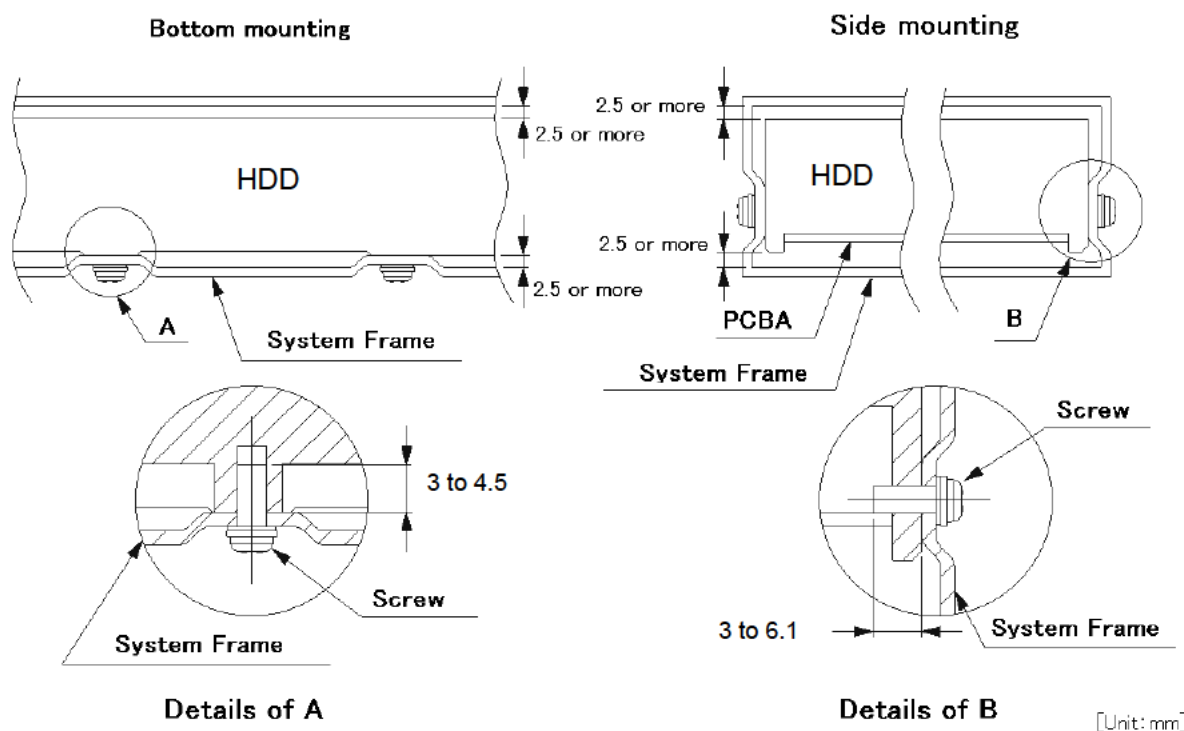

Figure 3.3 Mounting frame structure example
- a) The frame shall not touch the PCBA of the HDDs. For example as shown in Figure 3.3, mount the HDDs with a gap of 2.5 mm or more from the frame.
- b) As shown in Figure 3.3, the inward projection of the screw from the HDD frame wall at the corner must be 3 to 4.5mm on the bottom mounting, 3 to 6.1mm on the side mounting.